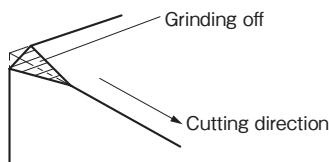

Fig.5
(3) If the initial cut is such an edge as in Fig.5, before chamfering, grind the edge off.